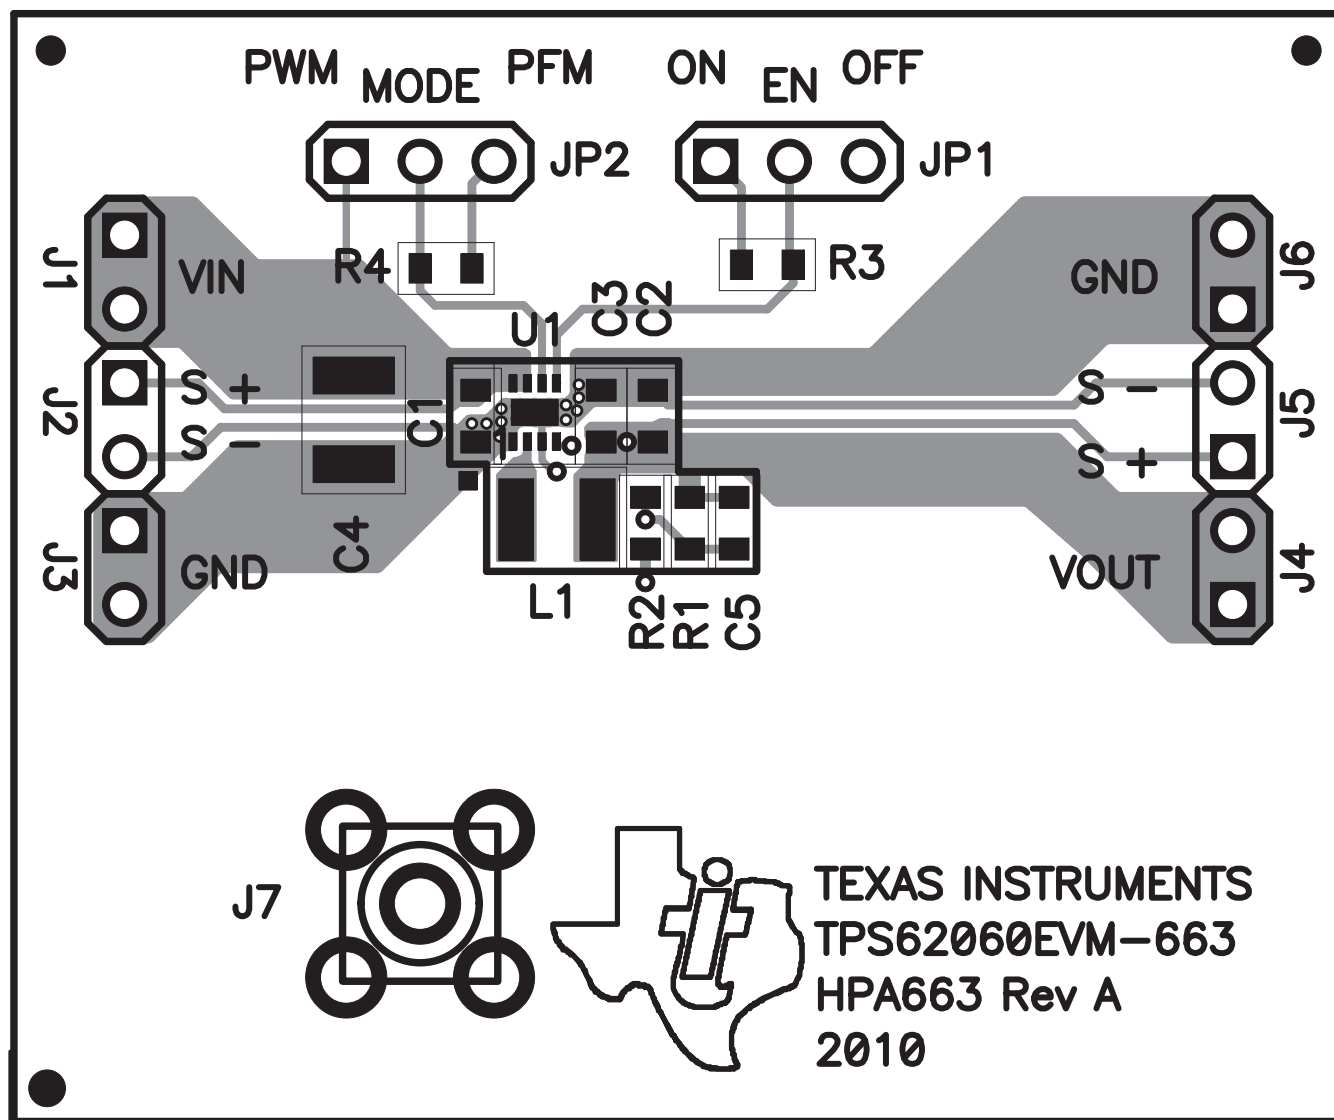
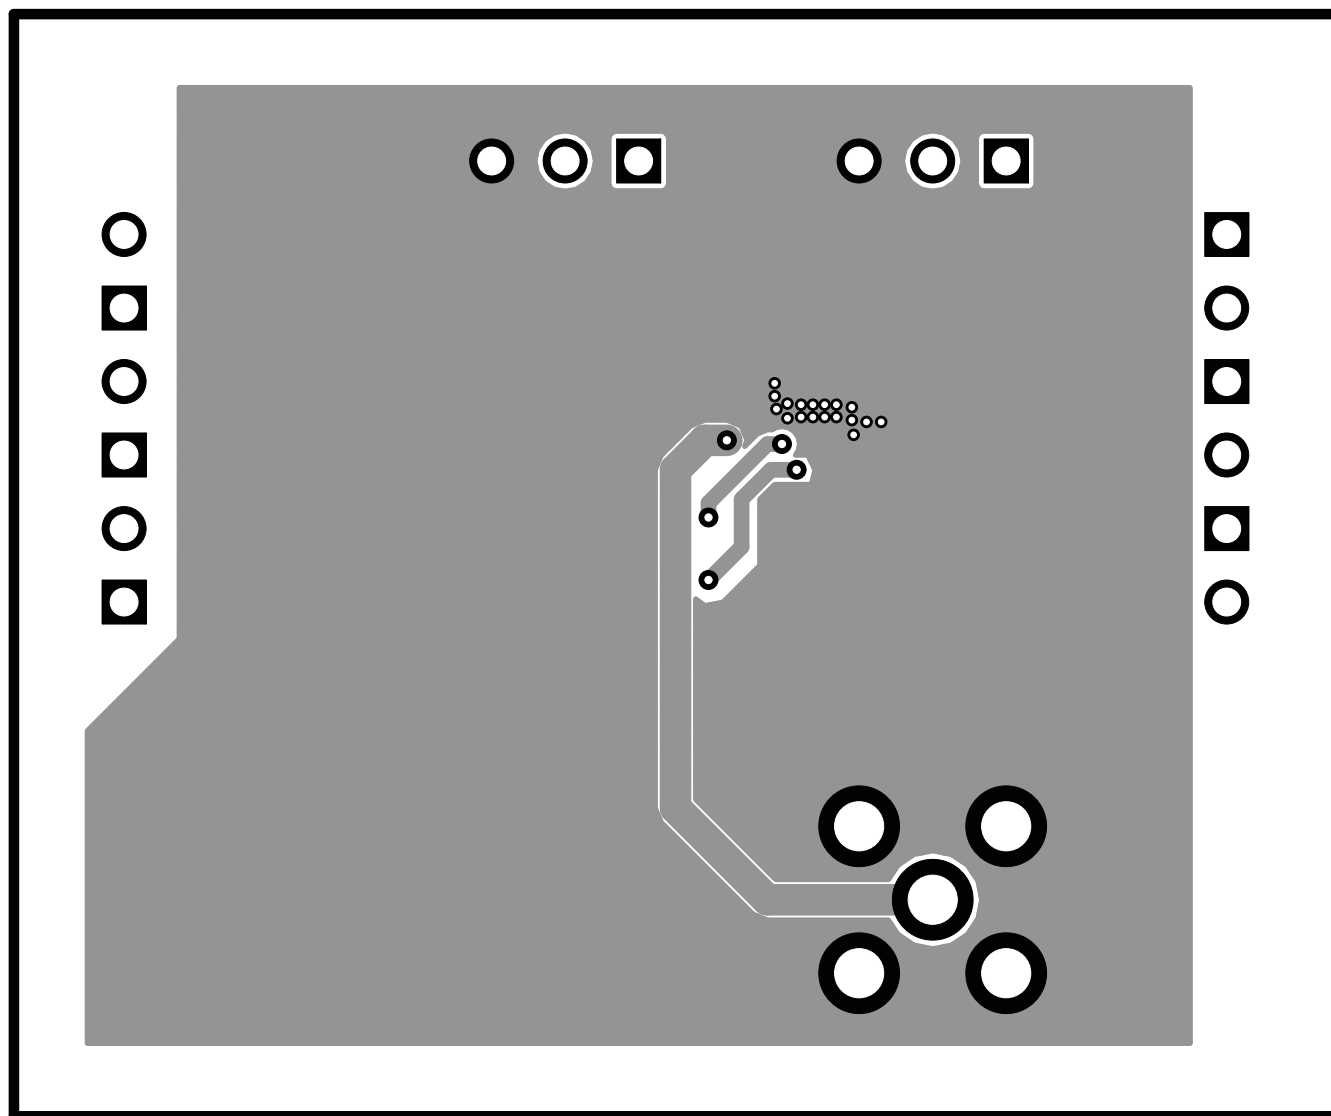

Figure 17. TPS62060EVM Component Placement, Top View
Figure 21. TPS62060EVM Bottom-Side Copper, Bottom View
Figure 17 through Figure 21 show the design of the TPS62060EVM-663 printed-circuit board. This EVM has been designed using a four-layer, 1-ounce, copper-clad PCB (1.8 in. by 1.5 in.) with all components in an active area on the top side of the board. All active traces are routed on the top and bottom layers to allow the user to easily view, probe, and evaluate the TPS62060 control integrated circuit (IC) in a practical, double-sided application environment. Moving components to both sides of the PCB or using additional internal layers can offer additional size reduction for space-constrained systems.